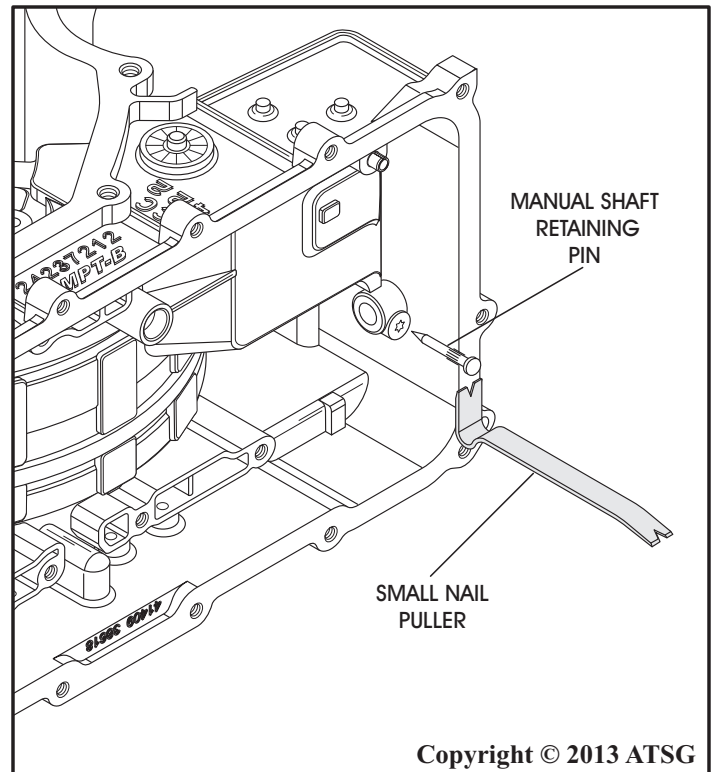

Figure 73
62. Use a small nail puller to reach down between internal mode switch and the case, to loosen and and remove the manual shaft retaining pin, as shown in Figure 73.